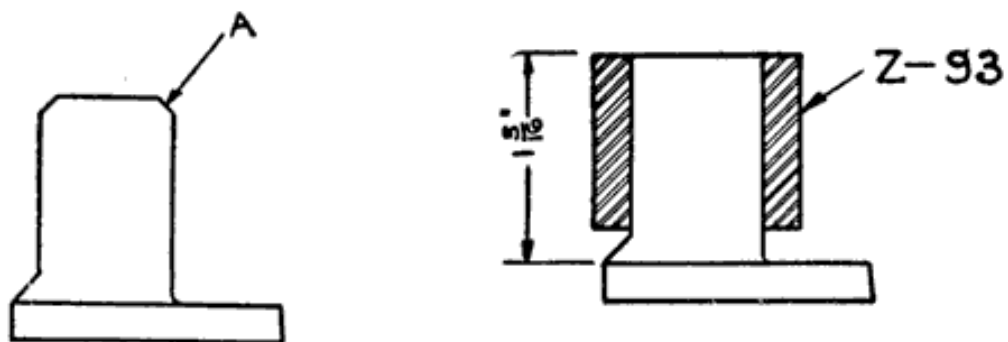

Fig. 281. Willard Post-Builder Z-93, and Built-Up Post
4. In reassembling, build the post up to a height of  $1\frac{5}{16}$  inches above the top of the plate strap, using Willard post builder Z-93 (Fig. 281).
5. After removing the post builder, bevel the top edge of the post with a file, as indicated at "A" (Fig. 281). Then replace plates in the jars.